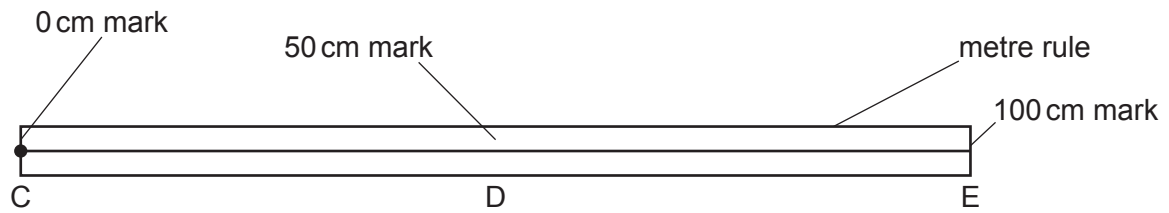

Fig. 2.2
- (vi) Approximately 105 cm of straight, bare constantan (Eureka) wire, diameter 0.28 mm (32 swg) or any other wire with a resistance of approximately $8\ \Omega/\text{m}$. The wire must be taped to a metre rule only between the 3 cm and 7 cm marks and between the 93 cm and 97 cm marks. The end of the wire at the zero end of the rule is to be labelled **C**. The other end is to be labelled **E**. The wire is to be labelled **D** at the 50 cm mark. See Fig. 2.2.